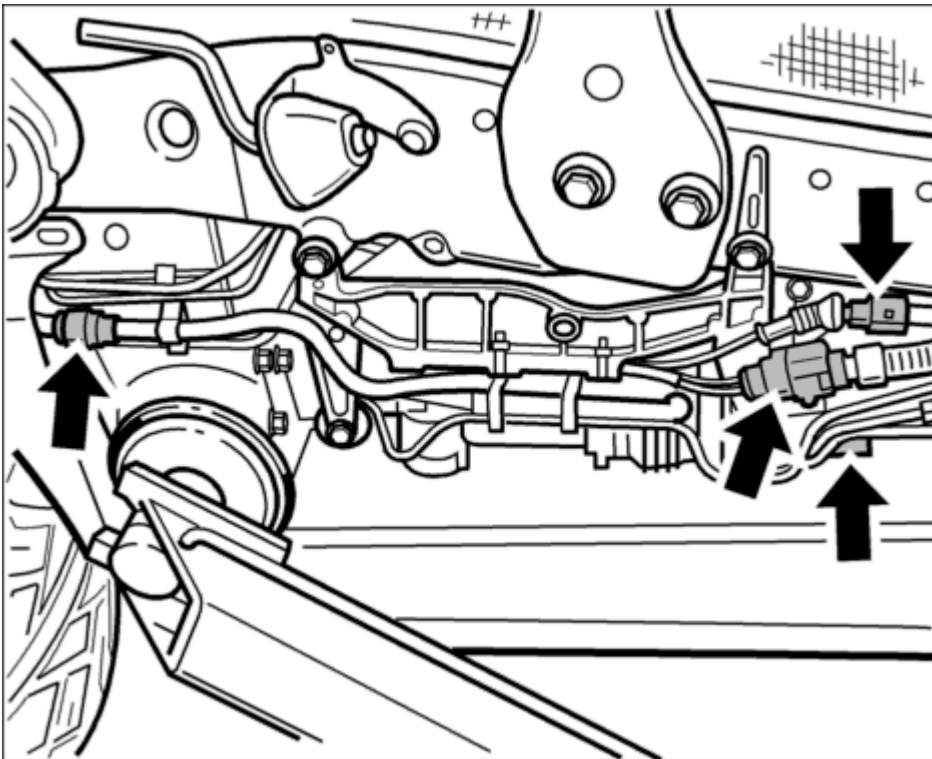

Fig. 52: Air lines plug connections
1. Unclip the suction line and the plug connections -arrows- . See **Fig. 52**.